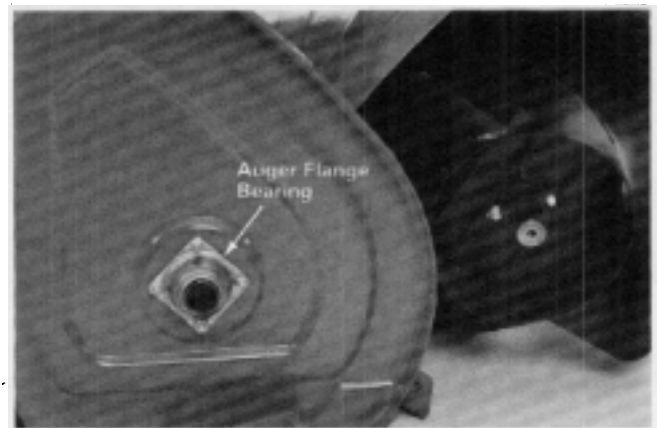

Figure 96
6. Slide the auger assembly into the front housing and loosely secure the auger flange bearings to the side plates with the hex head screws and nylon locknuts. See Figure 96.